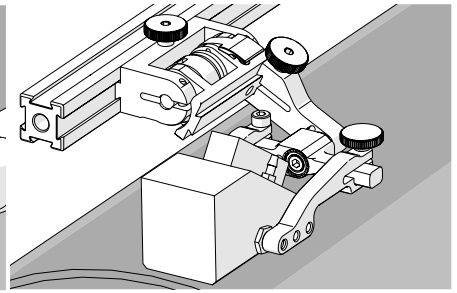

Fig. 140 - Spring loaded scan position
4. Gently lower probe holder and wedge to the scanning surface (Fig. 140).